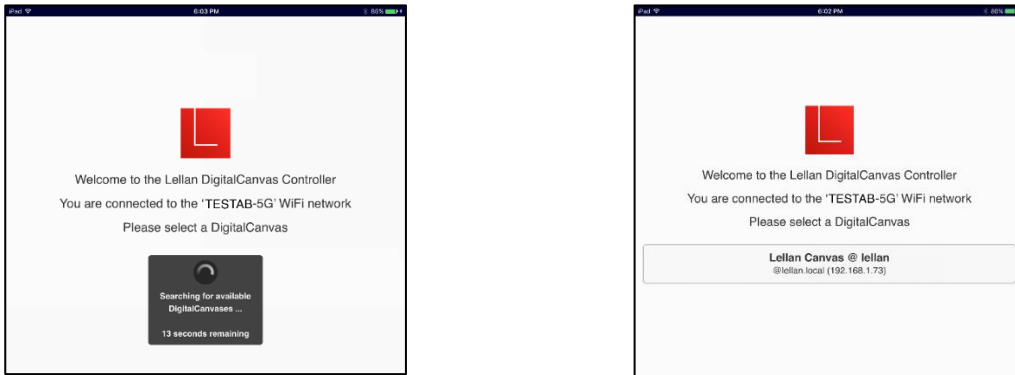

Figure 5-17: The LellanApp Discovery Page
5. The LellanApp will launch into the *Discovery* page. The *Discovery* page will immediately begin to search for and list all the DigitalCanvases on the local area network as shown in Figure 5-17. Note that for most installations, this 'list' will consist of a single DigitalCanvas.
10. This will bring you back to the *Discovery* page as shown in Figure 5-17, except that the listed DigitalCanvas will have the new network (and canvas) names.
11. Proceed to log back into the LellanApp as shown in steps following Figure 5-17.